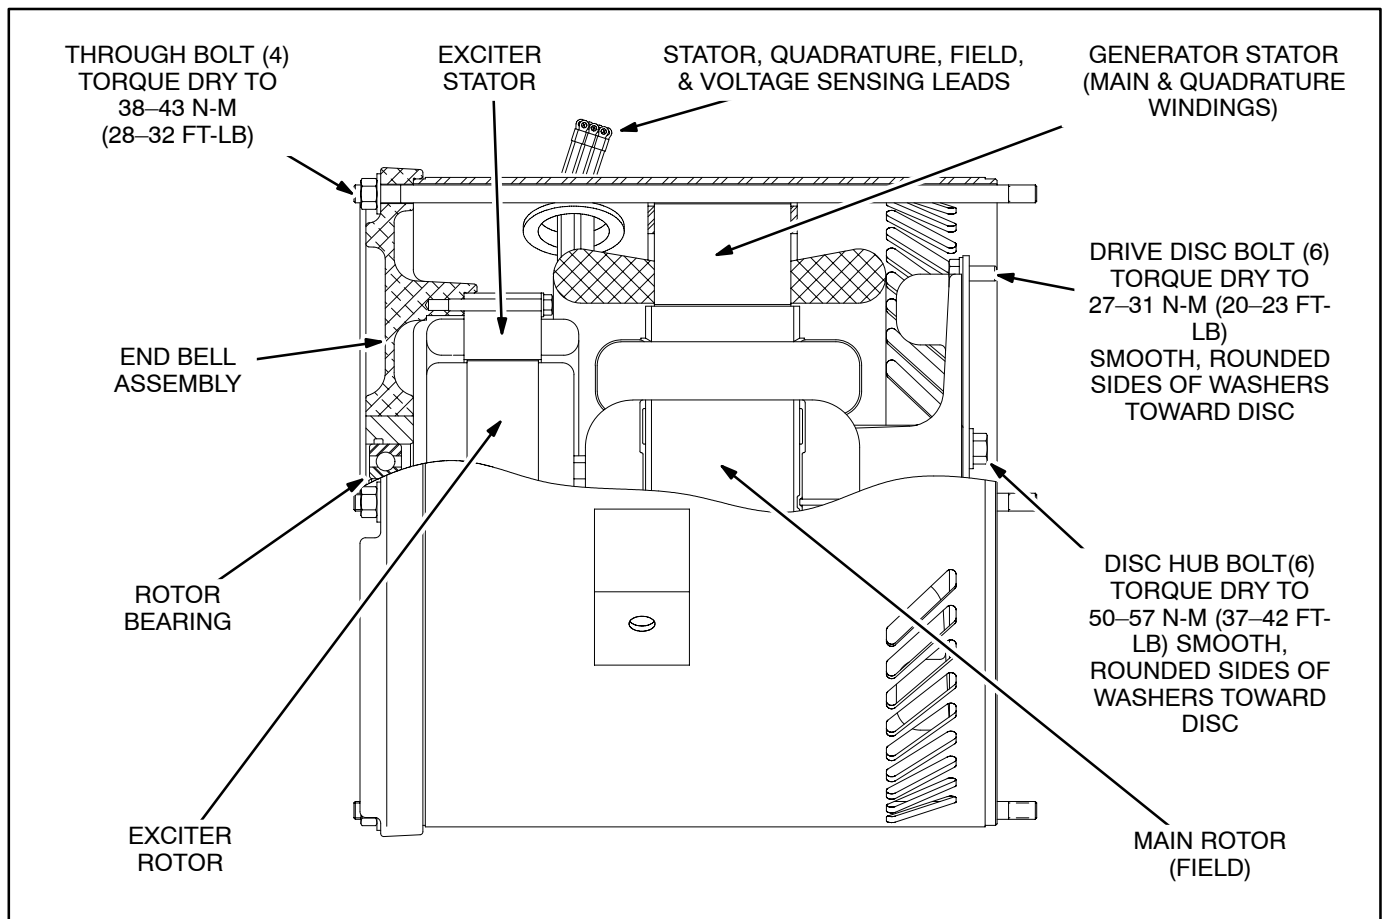

FIGURE 7-1. GENERATOR
These are 4-pole, rotating-field, brushless, single-bearing generators (Figure 7-1). Operation is as follows:
8. Cinch a strap around the rotor and remove the six disc-to-flywheel bolts (Figure 7-1). When removed, cradle the rotor horizontally in wooden blocks to prevent damage to windings, laminations and drive disc.
9. Use a gear puller to remove the rotor bearing or exciter rotor (Figure 7-1).
1. Press a new exciter rotor or rotor shaft bearing on up to its locating shoulder on the shaft. Do not lubricate the shaft (Figure 7-1).
2. Torque the six disc-to-hub bolts (Figure 7-1) to 50–57 N-m (37–42 lb-ft). Make sure that:
3. Torque the six disc-to-flywheel bolts (Figure 7-1) to 27–31 N-m (20–23 lb-ft). Make sure the rounded edges of the washers are on the disc side.
6. Torque the two exciter stator screws (Figure 7-1) to 11 N-m (8 lb-ft). The pole to which the leads are tied must be up.
7. Wipe the bearing bore in the end bell lightly with molybdenum disulfide grease and make sure the rubber O-ring (Figure 7-1) is in place.